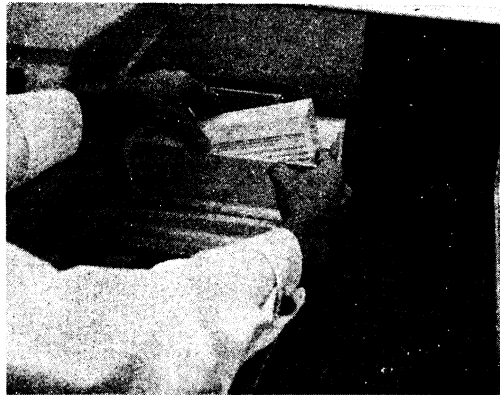

Figure 15. Removing Cards During Feed Operations
3. Lift the cards out of the stacker, being careful not to press against the cards remaining in the stacker. Pressure may cause the cards entering the stacker to tear webs out of the card that has just entered the stacker. (See Figure 15.)